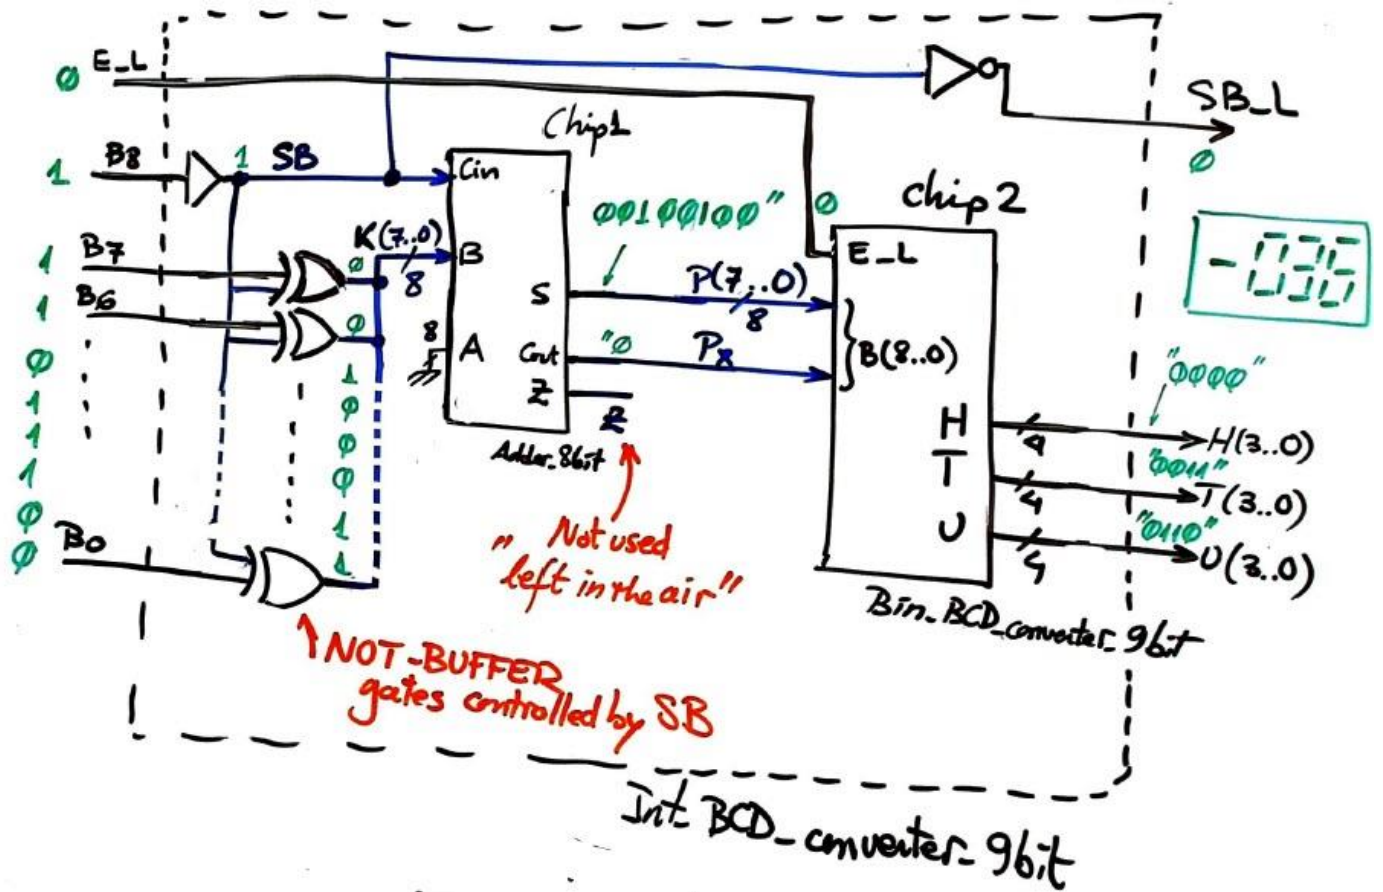

Fig. 5. Schematic plan C annotated ready for translation to VHDL.
- c. Redraw circuit in Fig. 5 in your own style. Discuss why such circuit may work correctly. Write circuit's truth table using some examples and a sketch an example of timing diagram. Redraw circuit in Fig. 6 in your own style. Discuss why such circuit may work correctly. Write circuit's truth table using some examples and a sketch an example of timing diagram.